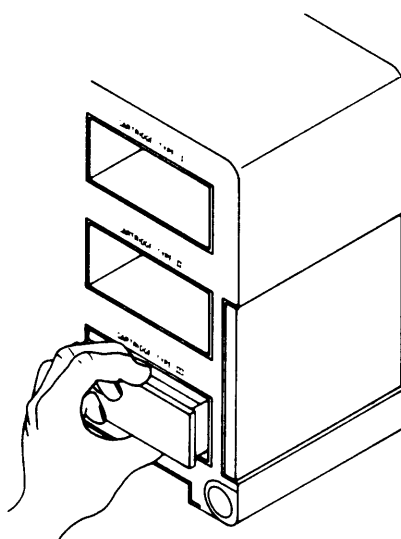

Figure 2
2. Grasp the plastic cover plate in the bottom right section of the control unit panel marked Cartridge Type III and pull to remove it as shown in Figure 2.